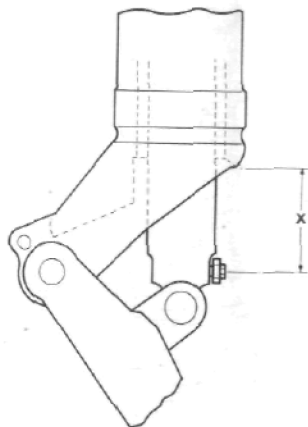

Fig.2 Nose undercarriage extension
11. With the weight of the aircraft on its wheels the dimension X, fig.2, should be at least 3.4 in., otherwise servicing is required.